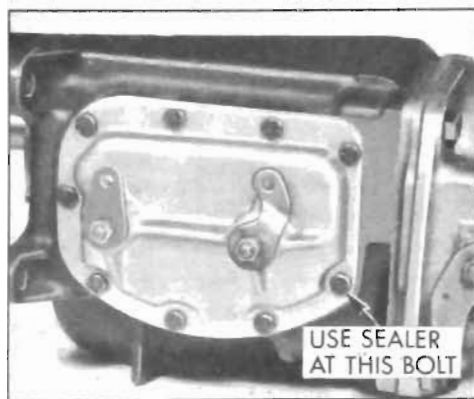

Figure 4-41—Side Cover
3. With transmission in neutral and shifter forks and levers in place, lower side cover into place. Install attaching bolts, using sealer on lower right bolt (see Figure 4-41), and tighten evenly.